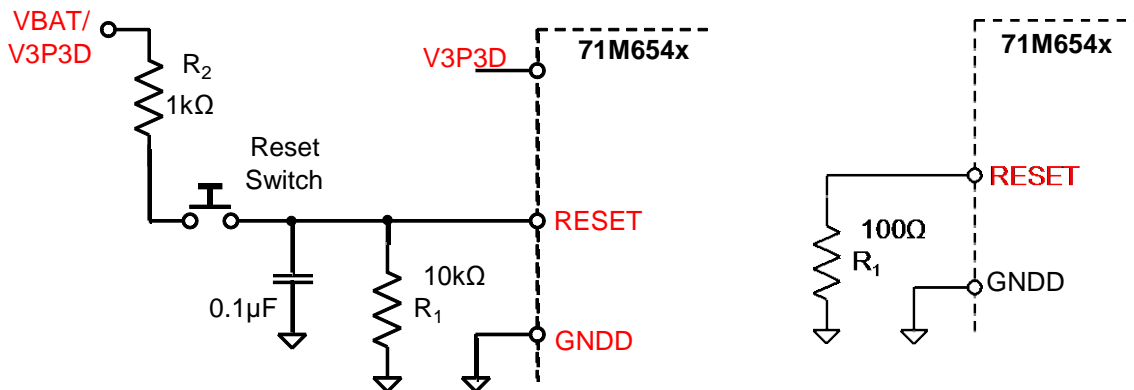

Figure 42: External Components for the RESET Pin: Push-Button (Left), Production Circuit (Right)
Even though a functional meter does not necessarily need a reset switch, it is useful to have a reset pushbutton for prototyping as shown in Figure 42, left side. The RESET signal may be sourced from V3P3SYS (functional in MSN mode only), V3P3D (MSN and BRN modes), or VBAT (all modes, if a battery is present), or from a combination of these sources, depending on the application.
- ✓ For a production meter, the RESET pin should be protected by the external components shown in Figure 42, right side. R₁ should be in the range of 100Ω and mounted as closely as possible to the IC.
Since the 71M6541D/F/G and 71M6542F/G generate their own power-on reset, a reset button or circuitry, as shown in Figure 42, is only required for test units and prototypes.